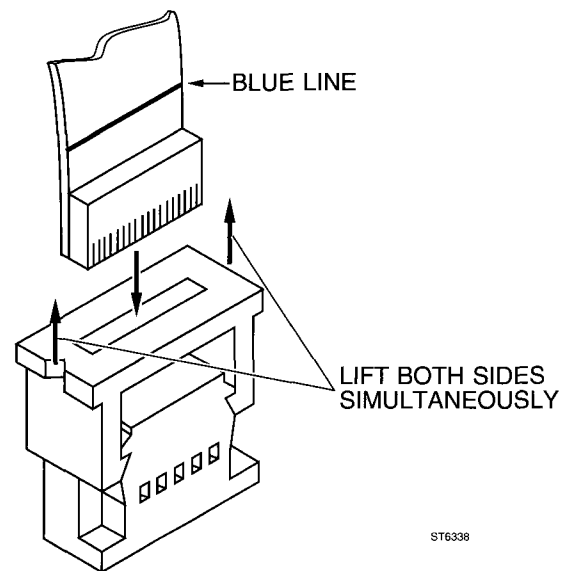

Figure 8.2 Mounting position of white ribbon cables in connector
- Push the ribbon cable fully into the connector. The blue line on the cable must be on the connector side where the contacts are visible (in unlocked position). Figure 8.2 explains this.